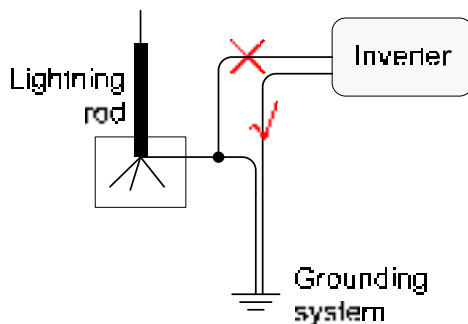

Figure 3-28 Grounding diagram of inverter
- The grounding of the inverter and the lightning rod of the building that inverter installed cannot be the same, the two need to be separated (as shown in Figure 3-28), or, lightning stroke will damage the inverter.